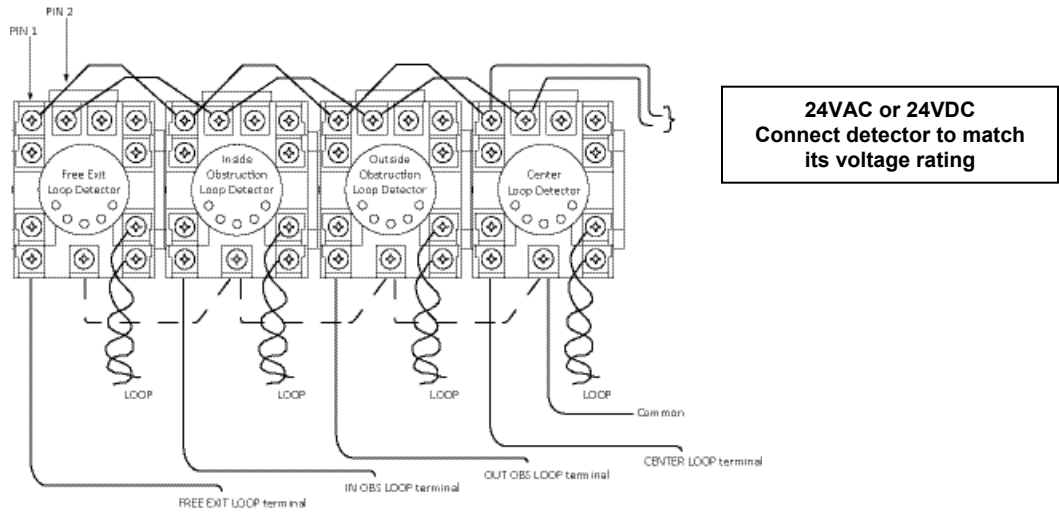

Figure 4-4. Standard 11-Pin Box Type Vehicle Detector
- If there is sufficient space, install the sockets in the control box; if not, then install them in a separate external housing. Figure 4-4 is for general reference only.
- If multiple detectors are used, route the power wires and common wire from socket to socket (daisy-chaining) rather than individually running each wire to the same location. See Figure 4-4. The only wires that are separate are the output wire to the Smart DC Controller and the detector loop input wires.